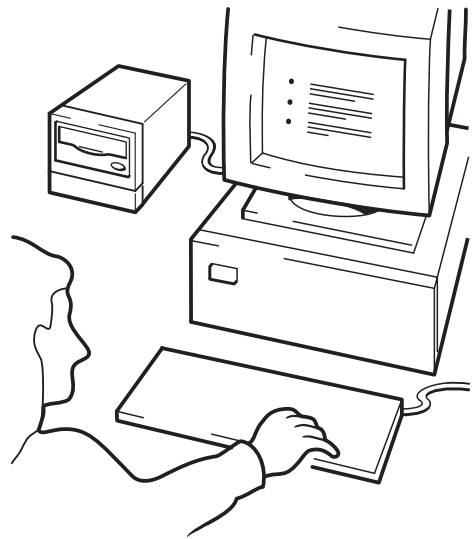

Figure 10d: using HP OBDR, step 4
- 4 Follow the on-screen instructions to set up the operating system. (See figure 10d.) Normally, you can accept the default response to all the prompts, for example just press <Enter>. The LEDs will flash in OBDR mode (as described in step 2) while the tape drive restores your operating system to a state where it can run a normal data restore.